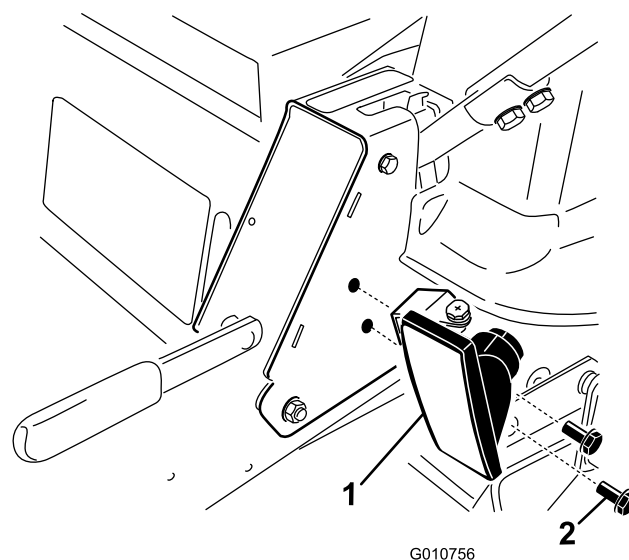

Figure 9
- Install the lamp assembly to the frame with the drain hole facing down at the drilled holes using two self tapping screws (1/4 x 1/2 inch) as shown in Figure 9. Do not tighten at this time.